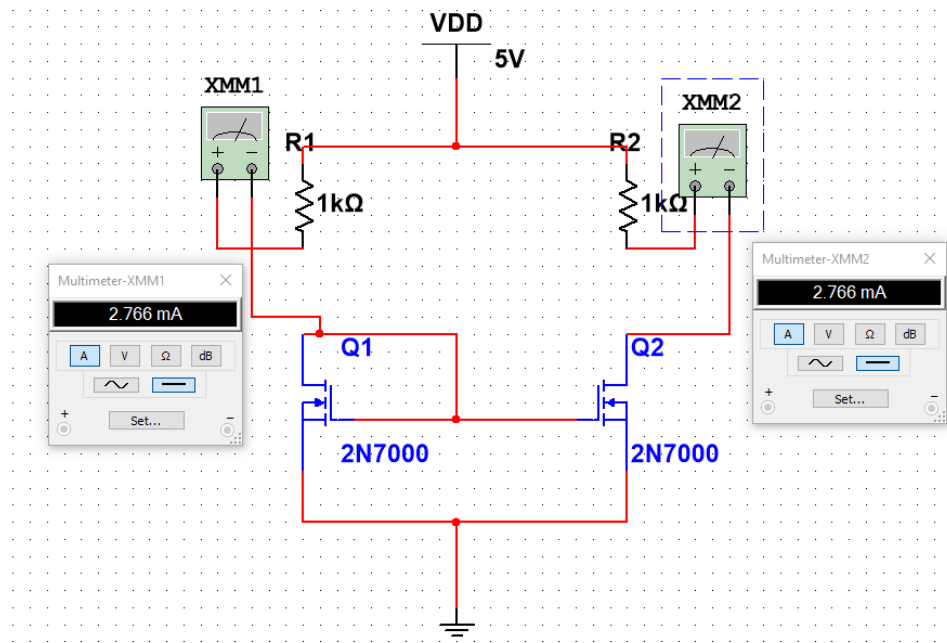

Fig.2 Simple MOS Mirror
- Implement the circuit provided in figure 2 for Simple MOS current Mirror.